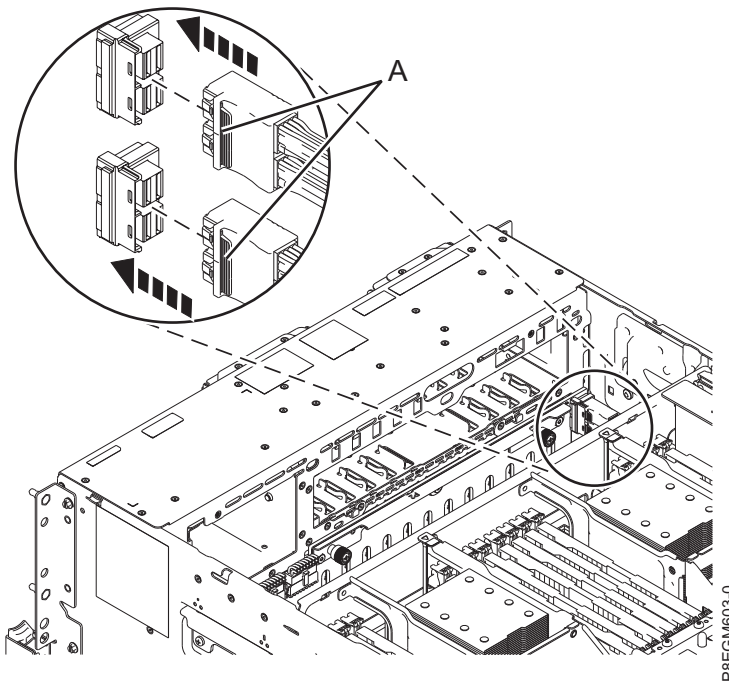

Figure 7. Connecting the front SAS cables to the disk drive backplane
16. Connect the front SAS cables (A) to the connector ports on the disk drive backplane as shown in Figure 7. Push the connector in until the latch clicks.